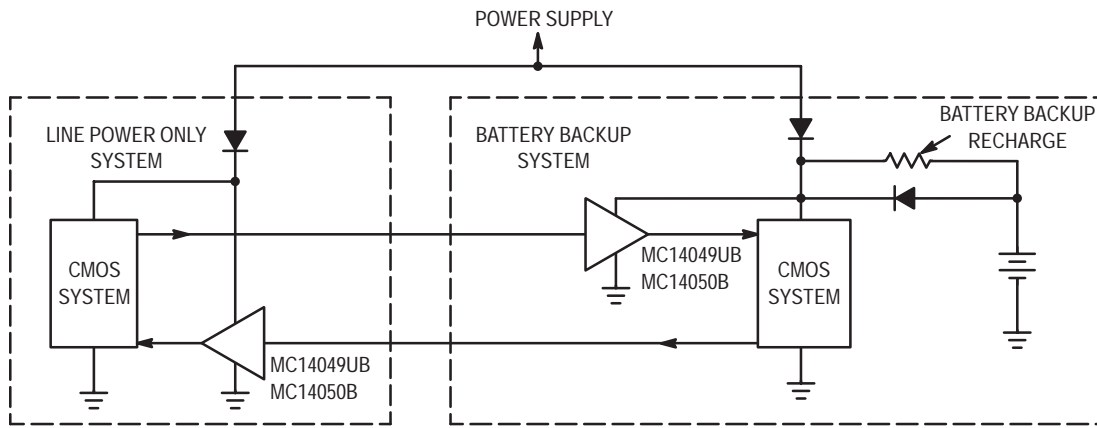

Figure 5. Battery Backup Interface
1. The recommended power supply voltage should be observed. For battery backup systems such as the one in Figure 5, the battery voltage must be at least 3.7 Volts (3 Volts from the minimum power supply voltage and 0.7 Volts to account for the voltage drop across the series diode).